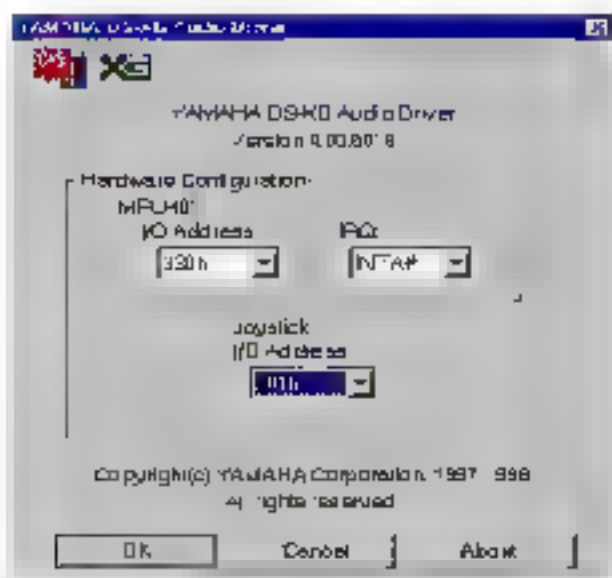

Figure 2-4 The YAMAHA DS-XG Audio Driver window
- 10) Windows NT will now copy the necessary files to your computer. When the YAMAHA DS-XG Audio Driver window appears, verify that the MPU401 I/O address, IRQ, FMIO address and Joystick I/O address settings are correct as shown in Figure 2-4 below. Click the OK button to continue.